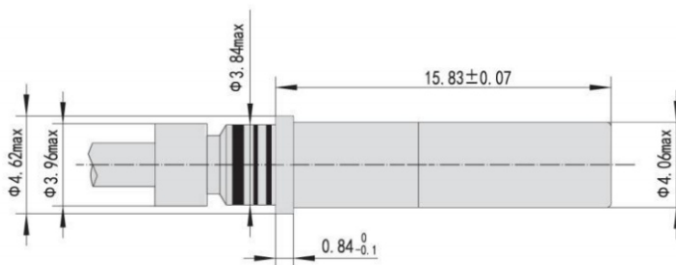

Figure 2.9
④Figure 2.9 shows the crimped 12# coaxial socket